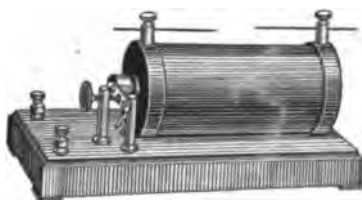
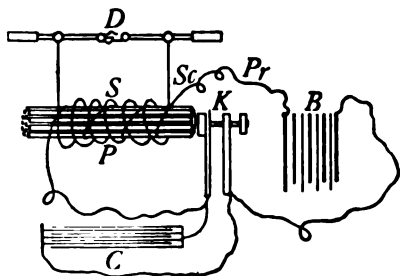

FIG. 302.—An induction coil.
FIG. 303.—Diagram showing the parts of an induction coil.
change the E.M.F. of the current used, either for purposes of *effectiveness, convenience, or economy*. The *induction coil* and the *transformer*, devices for changing the E.M.F. of electric currents, are therefore in common use. The *induction coil* (see Fig. 302) consists of a *primary* coil of coarse wire *P* (Fig. 303) wound upon a core of soft iron
*primary* it sets up a magnetic field in the *core*. When the current is interrupted, the field disappears. The increase and decrease in the field of the core induces an E.M.F. in the secondary coil, in accordance with the first law of electromagnetic induction. The E.M.F. produced depends upon (a) the number of turns in the secondary, (b) the strength of the magnetic field and (c) the rate of change of the field. The rate of change in the field is more rapid at the break than at the make. When the circuit is closed it takes perhaps  $\frac{1}{10}$  of a second for the current to build up to its full strength while at a break the current stops in perhaps 0.00001 of a second, so that the induced E.M.F. is perhaps 10,000 times as great at "break" as at make. To increase the suddenness of the "make" and "break," a condenser is often connected in the primary circuit, in parallel, with the interrupter. (See Fig. 303, C.) This condenser provides a place to hold the rush of current at the instant that the interrupter breaks the circuit. This stored up charge reinforces the current at the make producing a much more sudden change in the magnetic field with a corresponding increase in the E.M.F. The induced currents from induction coils are sometimes called *faradic currents* in honor of Faraday who discovered electromagnetic induction. They are used to operate sparking devices upon gas and gasoline engines and in many devices and experiments in which high-tension electricity is employed.